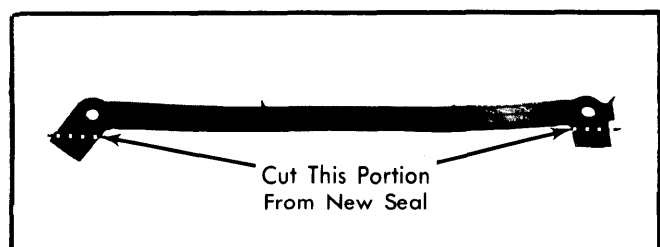

Fig. 9 Oil Pan Front Seal Modification
2) Pull off harmonic balancer with suitable puller (J-23523). Remove front cover and oil pan-to-cover retaining screws and remove cover with gasket. Use sharp cutting tool to cut oil pan front seal flush with block. See Fig. 9.
Installation — 1) Clean gasket surfaces on cylinder block and crankcase cover. Cut tabs from new oil pan front seal. See Fig. 9. Install seal to front cover, pressing tips into holes in cover. On 4.1L engines, place a 3/16" bead of RTV sealant on cover sealing surface.